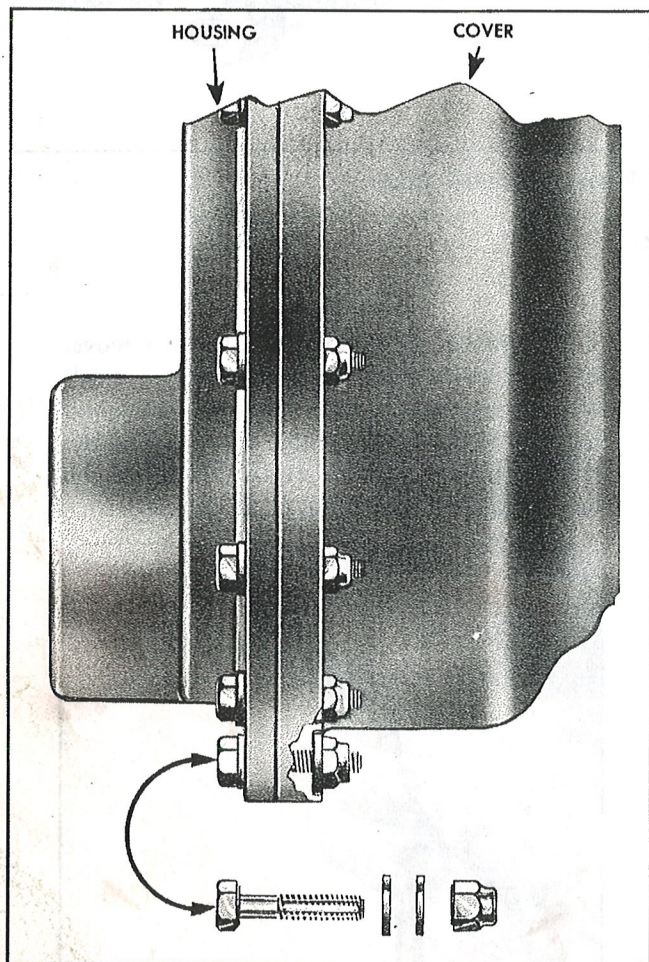

Figure 249—Regulator Through Bolts
c. The *housing* and the *cover* of this regulator are assembled by twenty-four  $\frac{1}{4}$ " x 28" through bolts, washers, and self-locking nuts. See Figure 249. Possible damage to the cover or housing during assembly has been minimized inasmuch as these bolts do not screw into either part. Because of the use of self-locking nuts, no safety wire is required on these bolts.